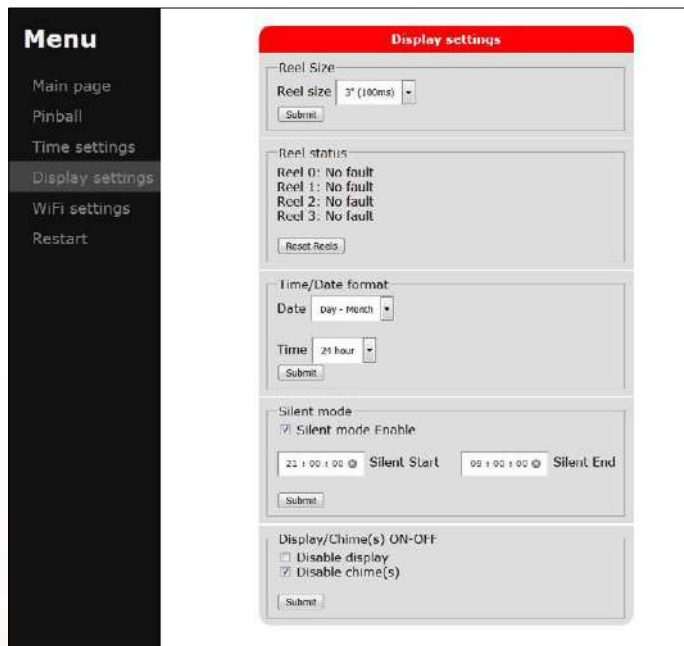

Figure 5: Display settings menu.
- 'Display settings' (**Figure 5**) allows you to adjust the timing (i.e. pace) of the score reel pulses. It's not absolutely necessary to change the default setting as all types and brands will work with the default 5" parameters. However, the smaller 3" ones were designed for faster stepping (keeping up with scoring) and it looks and sounds more natural to speed them up. The larger (older) score drums will not work reliably with faster settings.